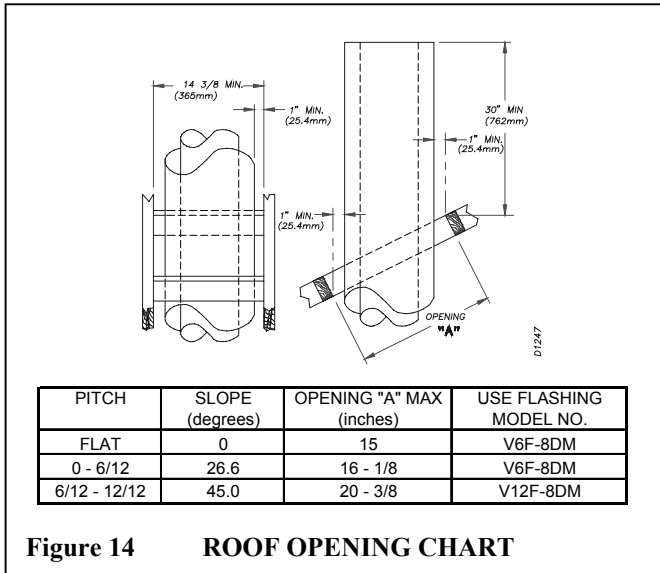

Figure 14 ROOF OPENING CHART
STEP 3: Use the roof opening chart (figure 14) to determine the correct opening length and flashing required.